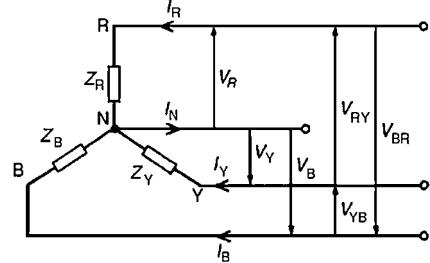

Figure 20.3
- (i) A **star-connected load** is shown in Fig. 20.3 where the three line conductors are each connected to a load and the outlets from the loads are joined together at  $N$  to form what is termed the **neutral point** or the **star point**.
- (iv) From Fig. 20.3 it can be seen that the phase currents (generally denoted by  $I_p$ ) are equal to their respective line currents  $I_R$ ,  $I_Y$  and  $I_B$ , i.e. for a star connection: